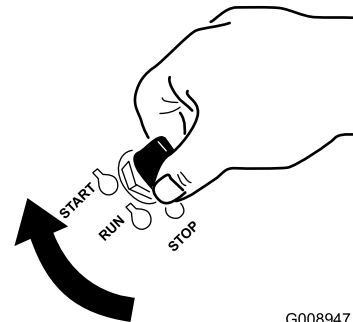

Figure 30
1. Turn the key to the START position (Figure 30).